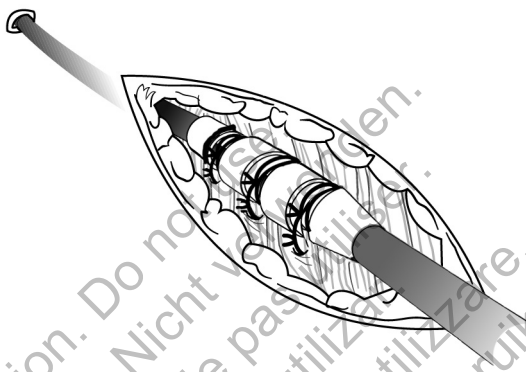

Figure 11. Example of suture sleeve, percutaneous implant technique
1. Peel back the introducer sheath and slide the suture sleeve deep into the tissue (Figure 11 Example of suture sleeve, percutaneous implant technique on page 25).